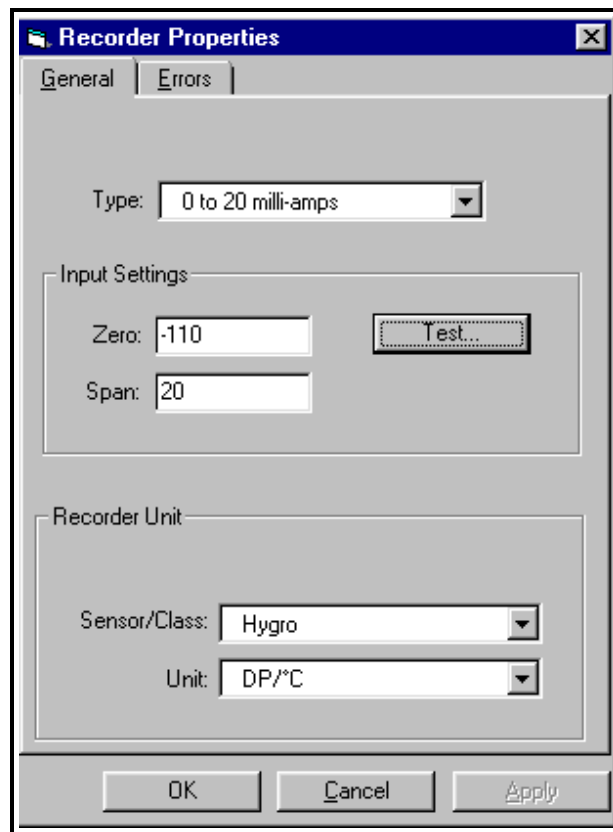

Figure 14: Recorder Programming Window
2. From the channel menu, click on the “Recorders” option, and then on “Recorder A” or “Recorder B.” The Recorder Properties window appears, as shown in Figure 14 below.
1. To test the recorder outputs, click on the [Test] button shown in the “Recorder Properties” window (Figure 14). A message appears: “This will suspend Recorder #[X] on Channel [X]. Are you sure you want to test this recorder?” Click on [OK] to continue.